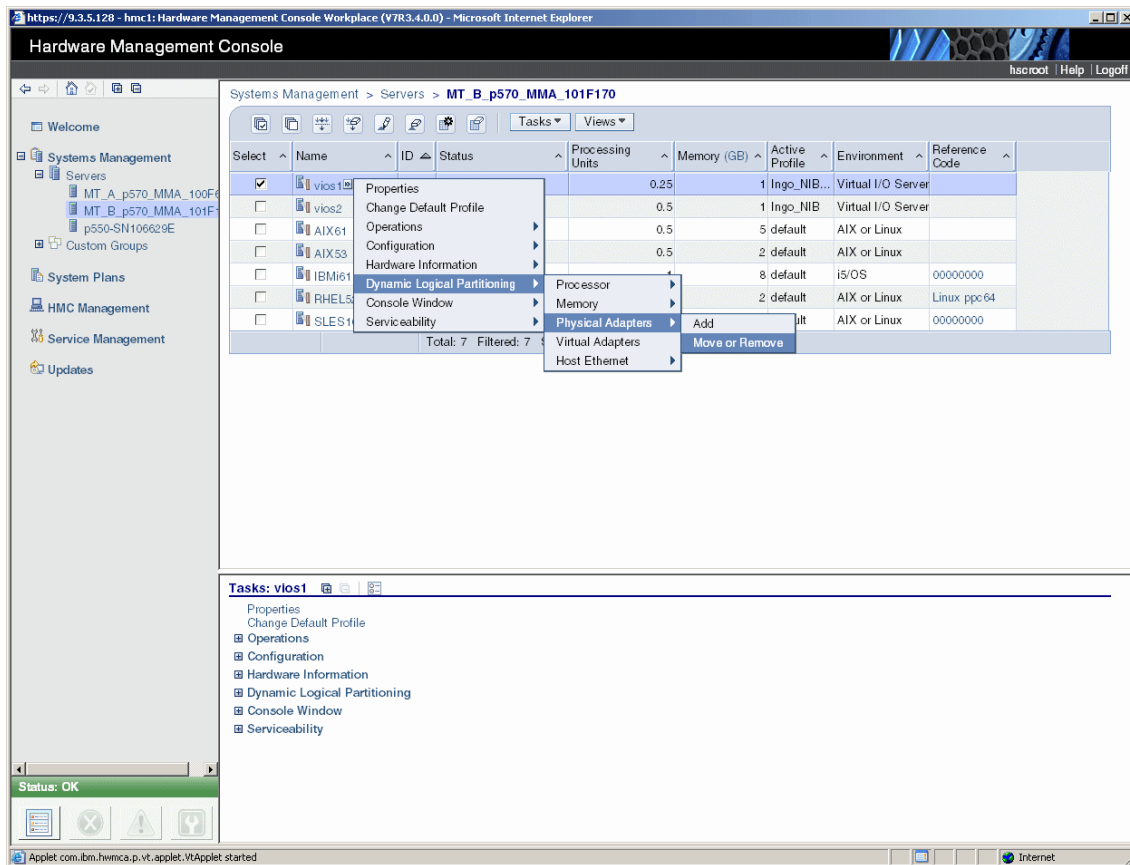

Figure 12-12 Move or remove physical adapter operation
1. Select the partition that currently holds the adapter and then select **Dynamic Logical Partitioning** → **Physical Adapters** → **Move or Remove** (Figure 12-12).